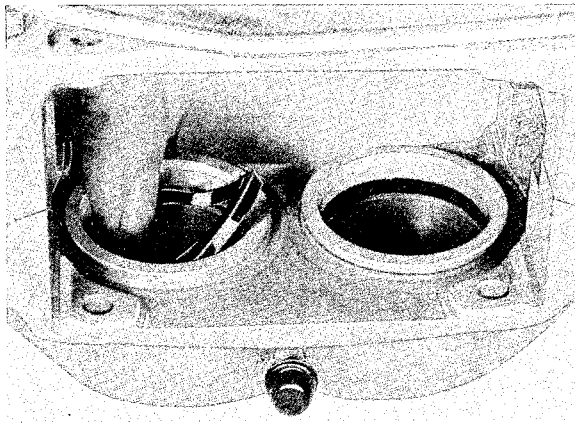

Fig. 5-23. Installing sealing ring
2. Install new sealing rings in cylinders, see Fig. 5-23.
2. Install new sealing rings in the cylinder, see Fig. 5-23.